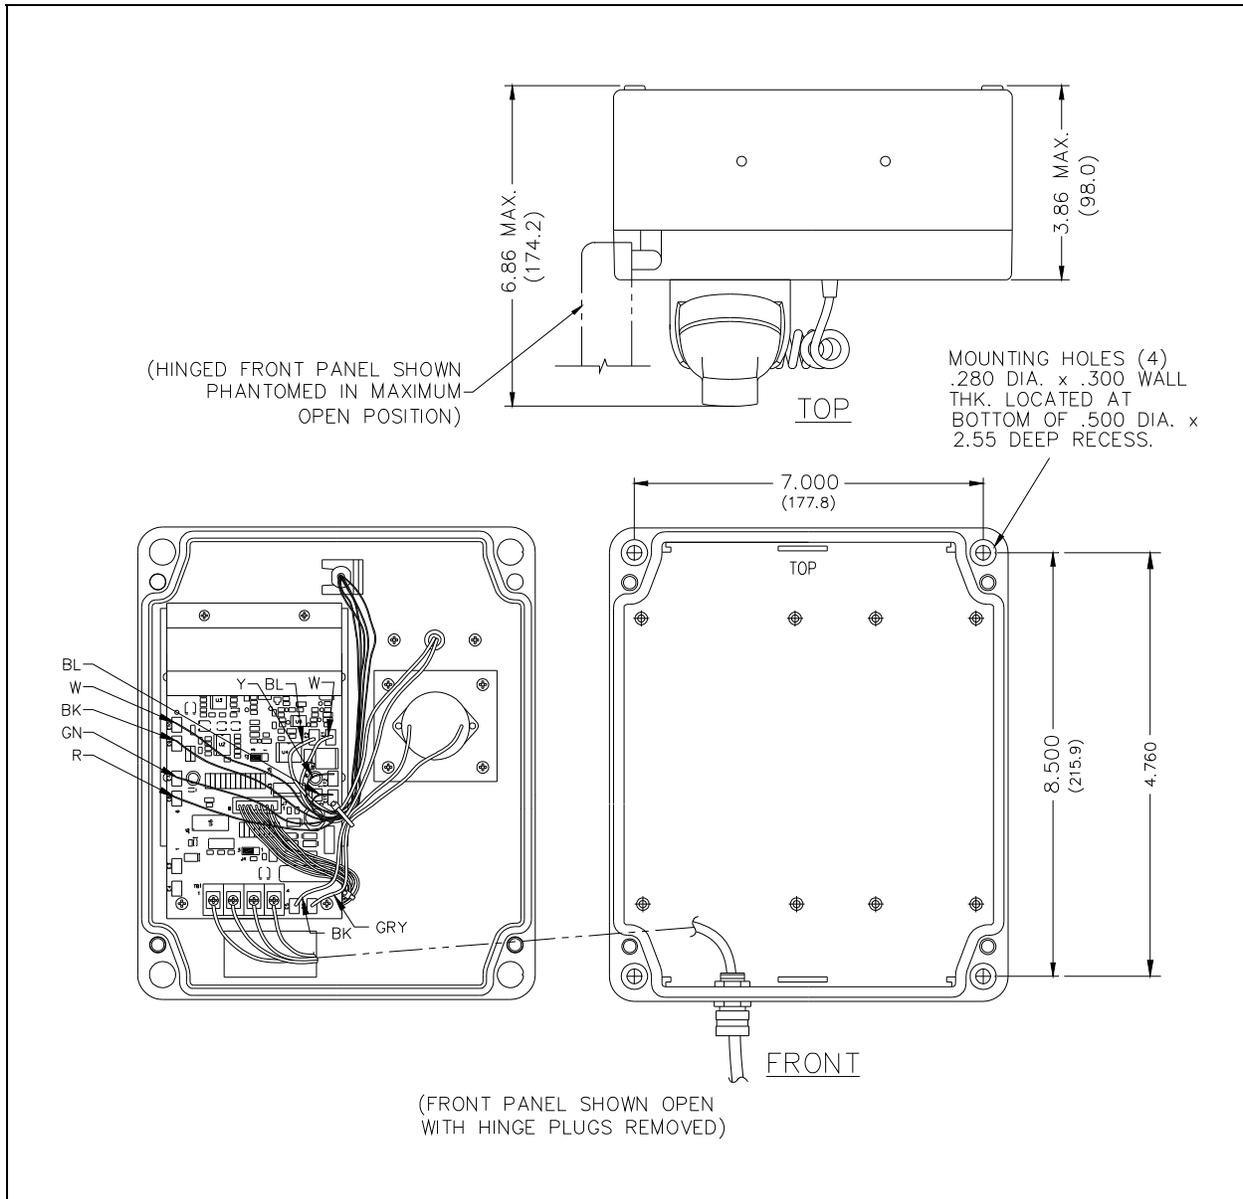

Figure 8. Model 246-001 Mounting Diagram
5. There are four mounting holes in the rear enclosure. Mount the enclosure to the wall using either four 1/4-20 machine screws with nuts and washers, or #14 wood screws of appropriate length for the mounting surface. Refer to Figure 8.